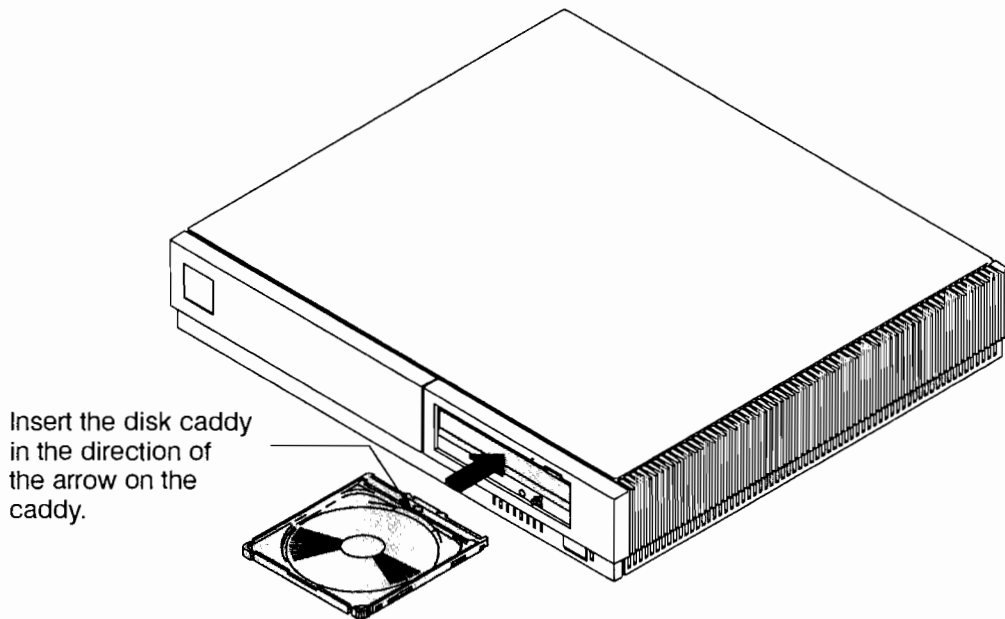

Figure 5-9. Inserting a CD-ROM Disk Caddy
2. Carefully insert the disk caddy in the direction of the arrow on the caddy about one third of the way into the loading slot until you hear a click (see Figure 5-9). The drive then automatically pulls the caddy the rest of the way into the slot.